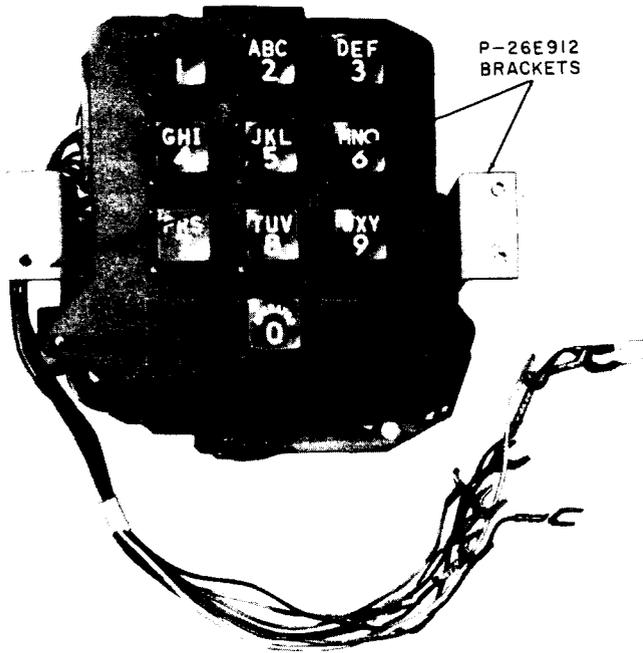

Fig. 1—25Y3 Dial With P-26E912 Brackets
2.06 The 25B3 and 25Y3 dials are designed for flush mounting and are normally covered by a faceplate. Brackets are required (order separately) to facilitate mounting the dial to a 1/8-inch thick wall panel or similar flat location. Two screws, furnished as part of the dial, secure the brackets to the dial frame. Hardware for securing the brackets to the panel is not furnished. Fig. 1 shows the dial with two brackets attached.